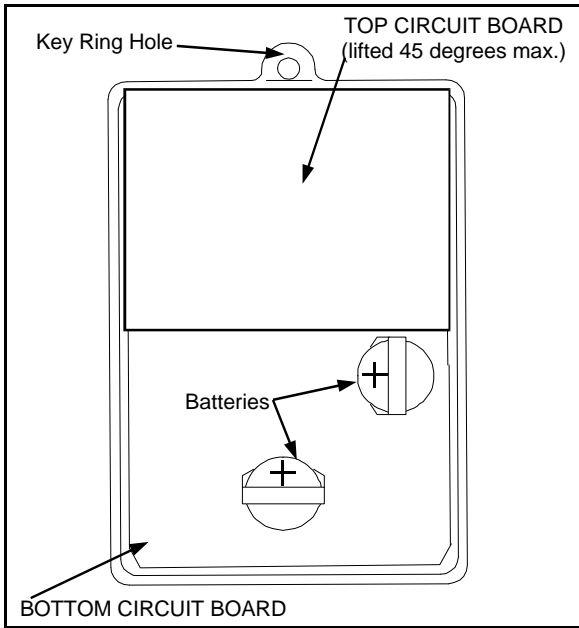

Figure 3: Top View of Bottom Circuit Board for Battery Replacement with Top Circuit Board
3. Slide the bottom battery out and away from the circuit board. Replace the battery as shown (see figures 3 & 4).
4. Replace the top battery by sliding it out to the right. Replace the battery as shown (see figures 3 & 4).